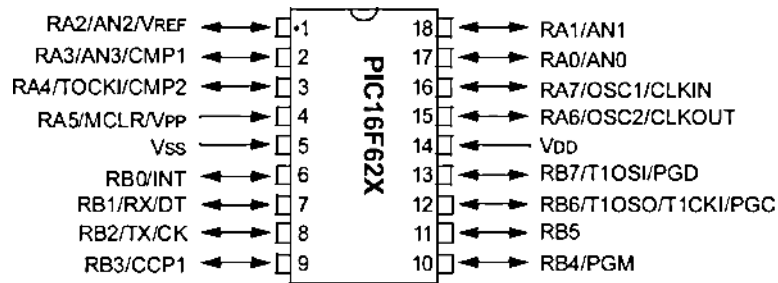

Figure 1.3 Pin-out diagram of the PIC16F27A microcontroller
We will complete this section with a short description of all 18 pins of the PIC16F27A microcontroller shown in Figure 1.3.
- RA0 to RA7 are the eight pins of port A. Port A is a bidirectional port, which means it can be configured as an input or an output. The number following RA is the bit number (0 to 7). So, we have one 8-bit directional port where each bit (with the exception of bit 5) can be configured as input or output. As shown in Figure 1.3, all of the port-A pins have alternative functions.